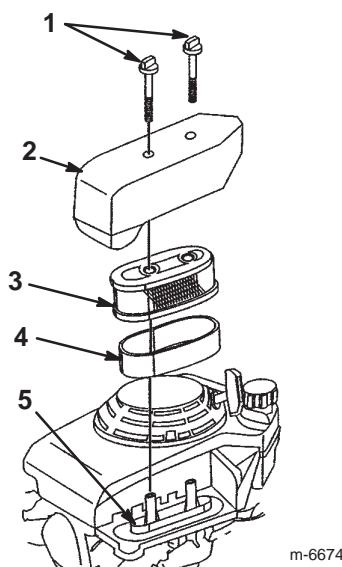

Figure 16
3. Remove the 2 wing bolts that secure the cover (Fig. 16).
5. Remove the foam and paper elements from the base (Fig. 16).
6. Remove the foam element from the paper element (Fig. 16).